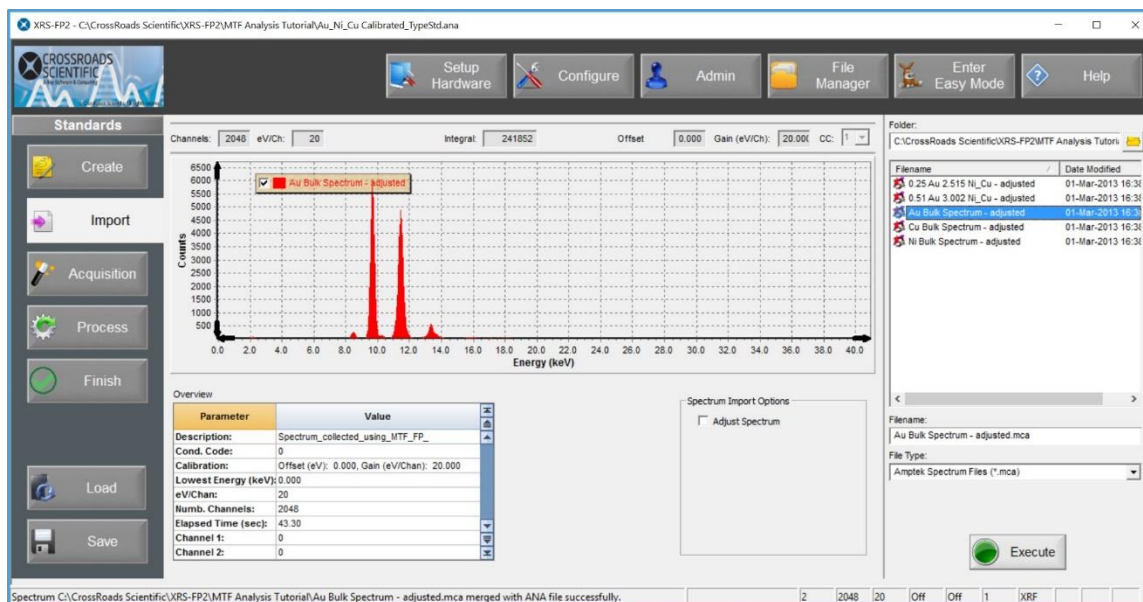

Figure 13. Standards Workflow – Import. Import the “Au Bulk Spectrum- adjusted.mca” file.
4. Now select the **Import** button. From the R-hand panel click on the “Au Bulk Spectrum – adjusted.mca” file and select the **Execute** button to load the spectrum file for this bulk standard (see Fig. 13 below).